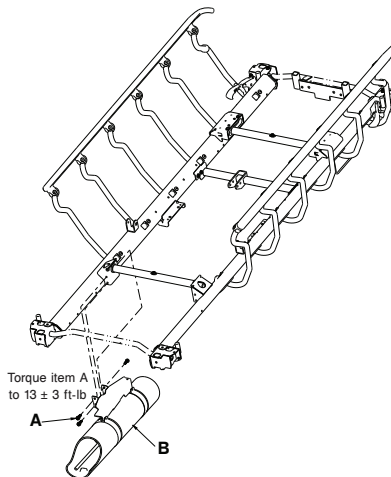

Figure 27 – Oxygen bottle holder replacement
3. Using a 1/2" socket with a 3/8" drive extension and a 3/8" drive ratchet, remove the three hex washer head screws (A) that secure the oxygen bottle holder (B) to the litter frame on the patient left side (Figure 27). Save the hex washer head screws.